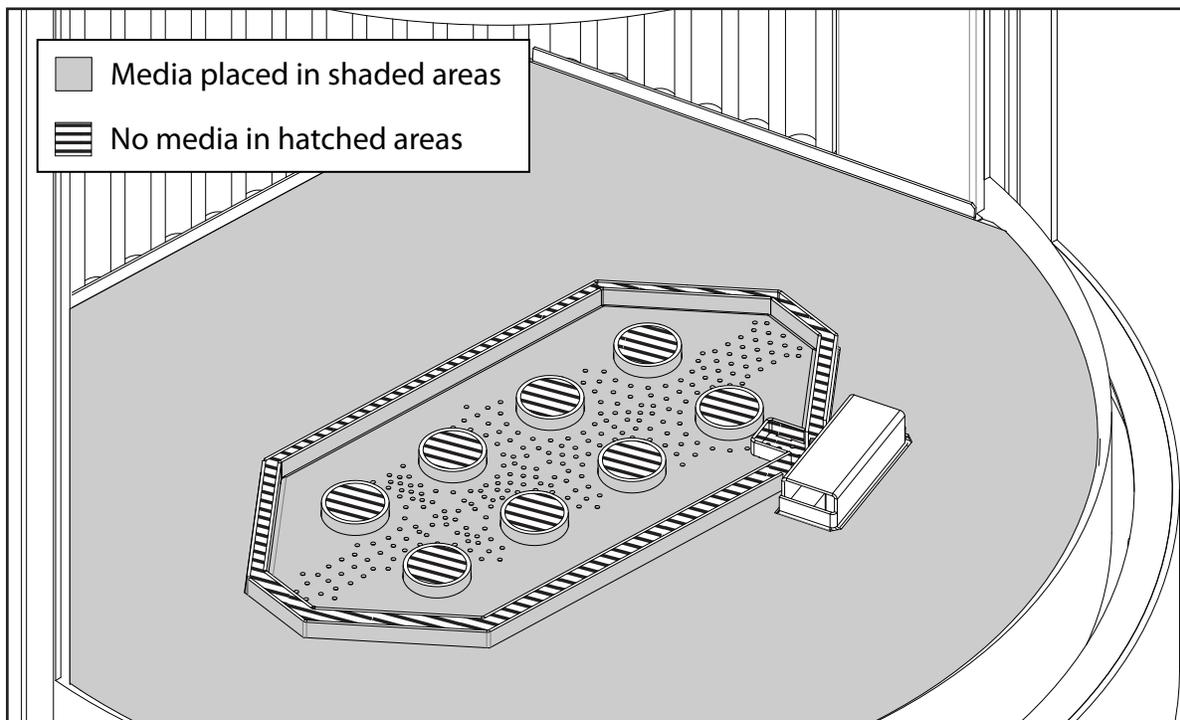

Figure 96: Media Installation Area
***Note:** Ensure that the areas highlighted in Figure 96 are not covered by media. These areas must be clear to allow the proper flow of air. Failure to do so will cause the fireplace to not burn properly.